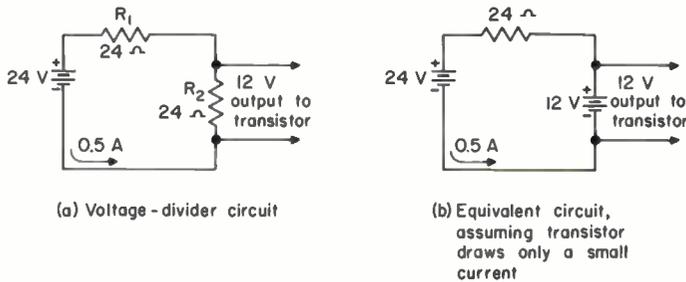

Fig. 39 A voltage divider for obtaining a 12-V output from a 24-V battery.
- 38 A *voltage divider*, much used in electronics, makes practical use of the fact that a resistor can be used as an equivalent voltage source. A voltage divider consists of two or more resistors in series across a power supply. It's used to obtain a voltage lower than that of the power supply. If we had a 24-V battery but needed only 12 V to power a transistor, we could use the voltage-divider circuit of Fig. 39(a) to get the needed 12 V. The equivalent circuit in (b) shows that the voltage across R_2 is equivalent to a 12-V battery, so that the transistor operates as if it were actually used across a real 12-V battery. It's easy to figure this equivalent voltage: simply multiply $I \times R_2 = 0.5 \text{ A} \times 24 \Omega = 12 \text{ V}$.
You should know that an equivalent circuit is often equivalent only under specified conditions. In the equivalent circuit of Fig. 39(b), for example, it's assumed that the current drawn by the transistor is small compared with the 0.5 A through R_1 . If the transistor draws only 0.01 A, this requirement is adequately met. A more elaborate equivalent circuit is needed if a heavy current is to be taken from the voltage-divider output. However, you're not far along enough in your studies to get into such elaborate circuits. This discussion is only a preview of voltage dividers; later lessons will explain them in detail.